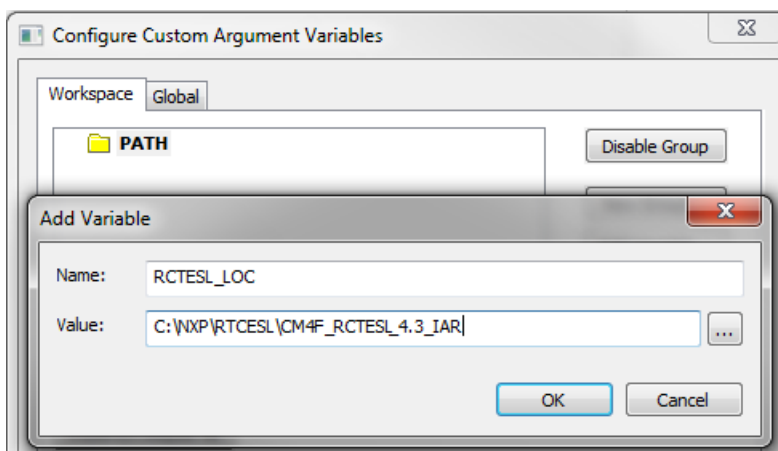

Figure 1-38. New variable
6. In the main dialog, click OK. See Figure 1-38.